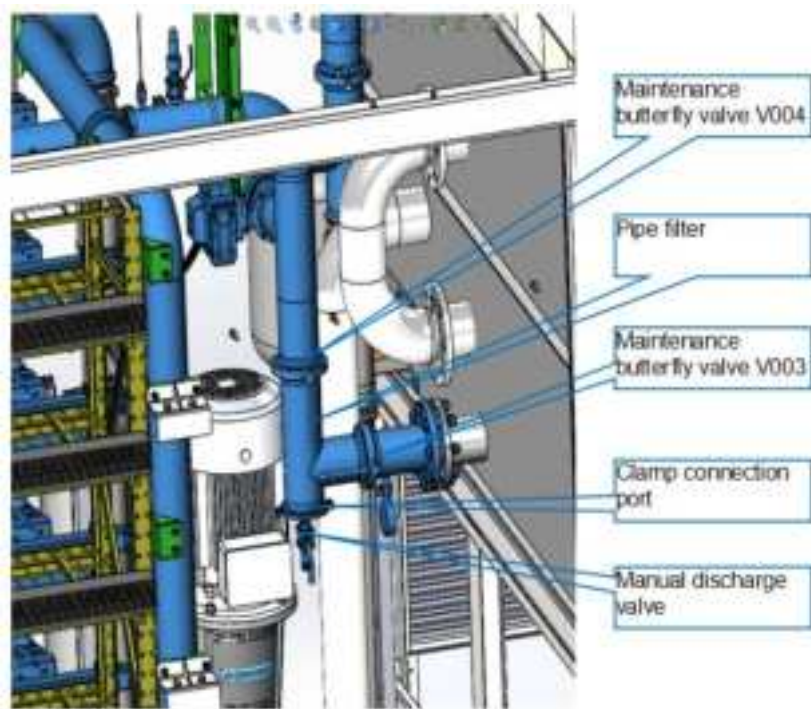

Figure 10-23 Location of butterfly valves and pipeline filters for pipeline maintenance
- b. Referring to Figure 10-23 Location of butterfly valves and pipeline filters for pipeline maintenance, close the maintenance butterfly valves in the system, open the discharge ball valve below the pipeline filter component, and discharge the local Water in the pipeline.